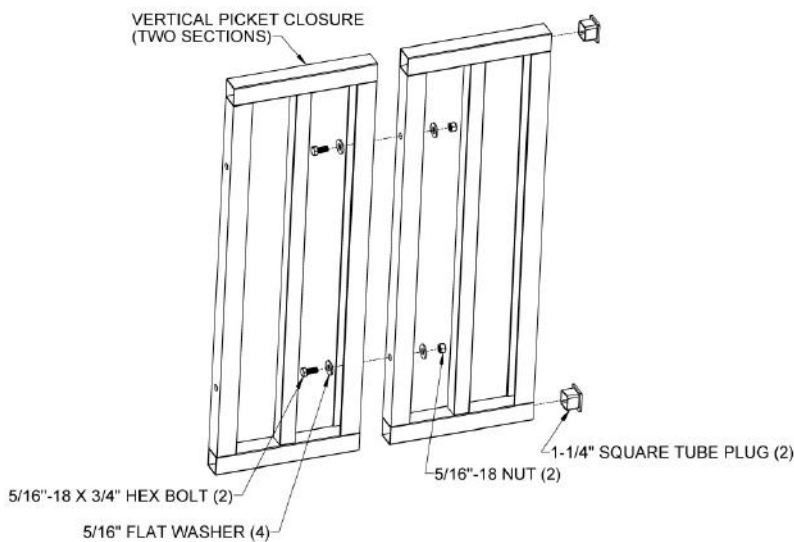

FIG. 5.13
5.6.2. Bolt the two Vertical Picket closure sections together using 5/16"-18 x 3/4" long hex bolts, 5/16" flat washers, and 5/16"-18 nuts (as shown in FIG 5.13). Then, Insert 1-1/4" square tube plugs in the open ends of the top and bottom rails on one side. If the ramp will be centered, do not assemble. Insert 1-1/4" square tube plugs in all open ends which do not attach to a platform post.